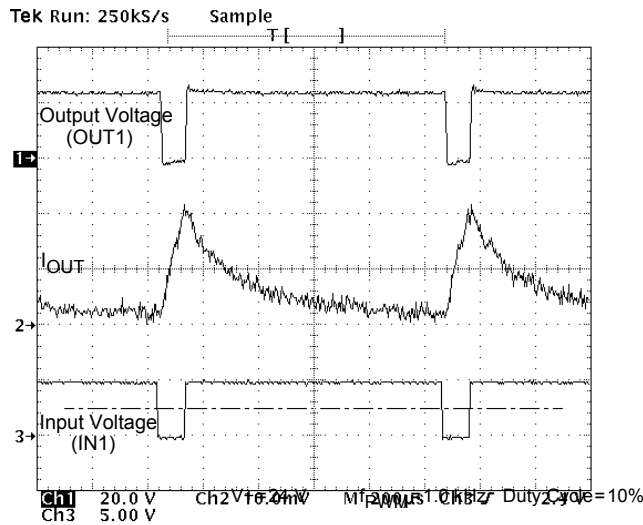

Figure 12. Output Voltage and Current vs. Input Voltage at $V^+ = 24 \text{ V}$, PMW Frequency of 1.0 kHz, and Duty Cycle of 10%
23. The outputs can be PWM-controlled from an external source. This is typically done by holding one input high while applying a PWM pulse train to the other input. The maximum PWM frequency obtainable is a compromise between switching losses and switching frequency. See Typical Switching Waveforms, Figures 12 through 19, pp. 14–16.